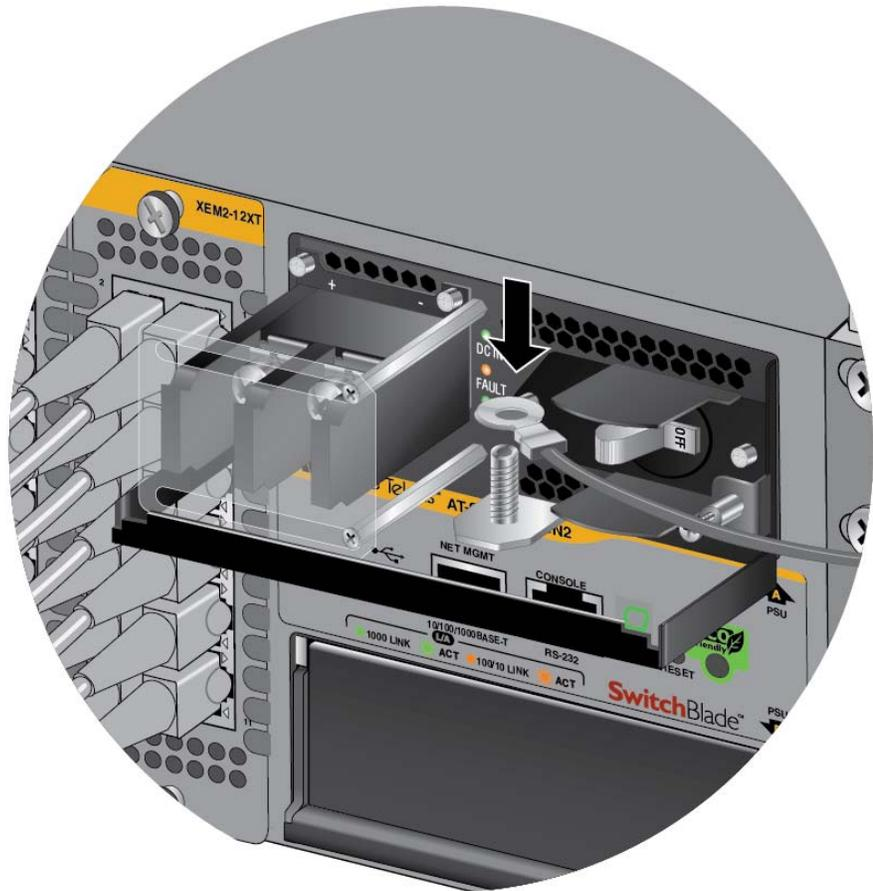

Figure 73. Attaching the Grounding Lug and Wire to the Grounding Post
5. Attach the grounding lug and wire to the grounding post. Refer to Figure 73 on page 126.